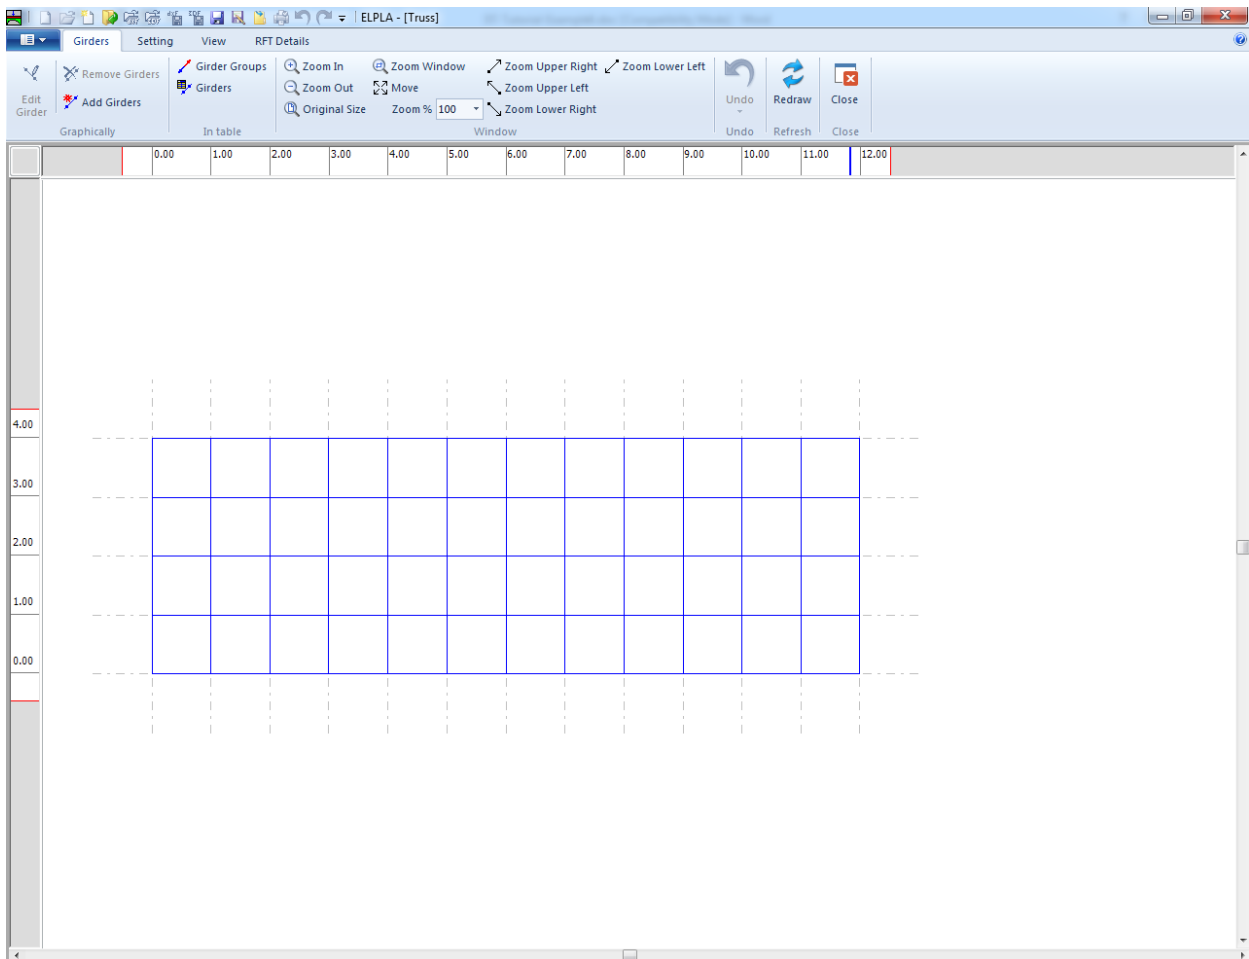
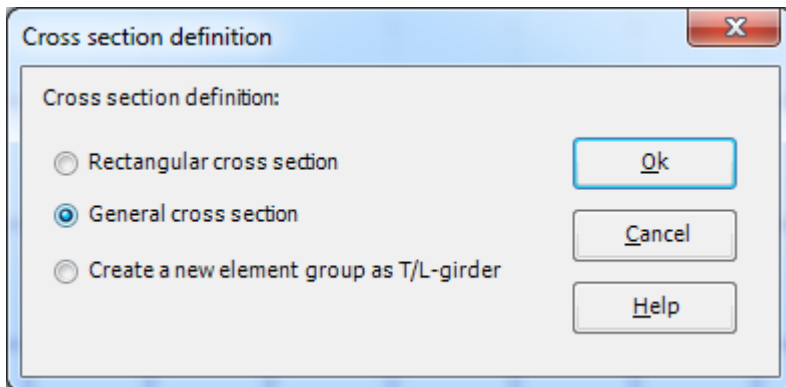

Figure 6.11 "Girders" Window
Figure 6.12 "Cross section definition" option box
To define the truss members, choose "Girders" command from "Data" Tab. The following Window in Figure 6.11 appears.
- Choose "Girder Groups" command from "In table" menu in Figure 6.11. The following option box in Figure 6.12 appears
- Choose "Add Girders" command from "Graphically" menu in Figure 6.11. When "Add Girders" command is chosen, the cursor will change from an arrow to a cross hair